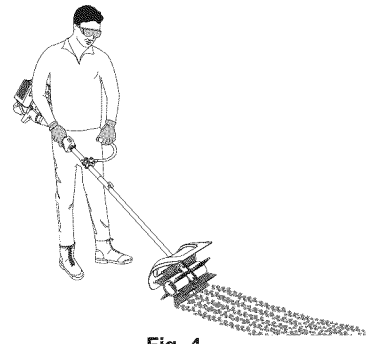

Fig. 4
- Stand in the operating position (Fig. 4).
5. Advance with the unit at a moderate speed to sweep debris forward (Fig. 4). Optionally, it may be desirable to angle the power broom slightly to the left in order to direct debris to side.